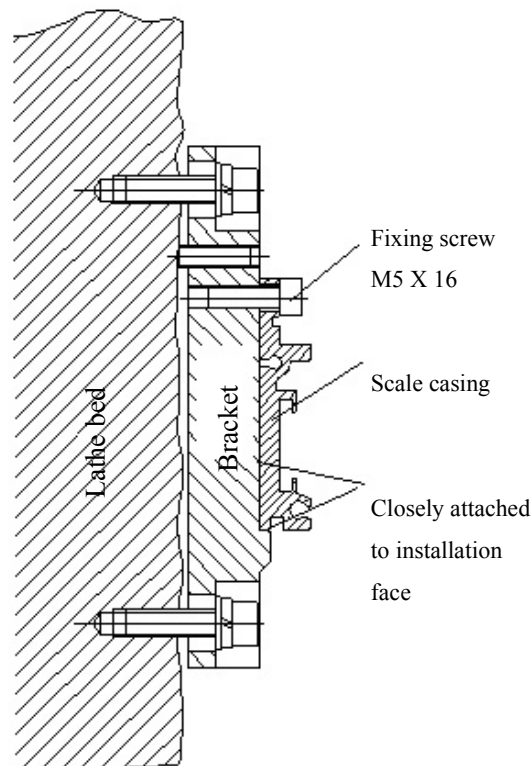

Fig. 5.19 Installation of scale casing
- (2) Installation of scale casing: Fix the scale casing on the bracket as shown in Fig. 5.19.